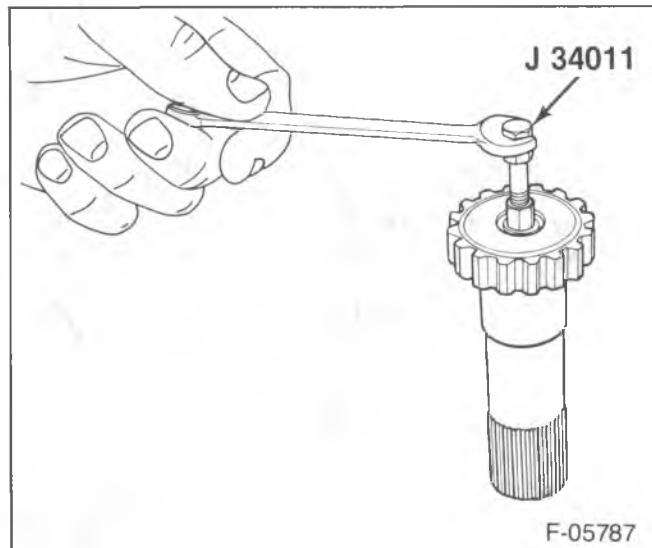

Figure 4—Removing the Output Shaft
7. Seal (15) from the tube (5). Pry out with a screwdriver.
8. Thrust washer (20).
9. Sleeve (22) and output shaft (23).
10. Differential pilot bearing (21) from the output shaft, using J 34011 (figure 4).
11. Washer (24).
12. Shaft (59), and deflector (2).